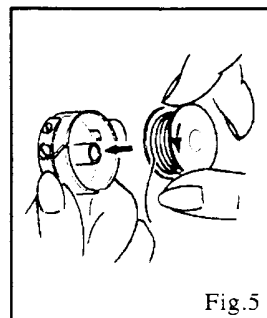
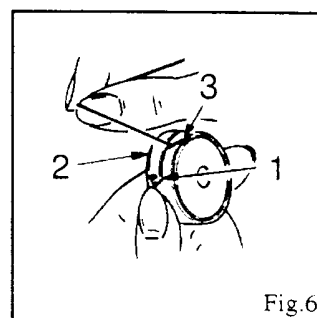

Fig.5
Fig.6
Hold bobbin so that thread will unwind in the direction shown in Fig. 5 and insert bobbin in bobbin case. Pull the thread into slot (1), under the tension spring (2) and into slot (3) as shown in Fig. 6. Draw thread into delivery eye (1) at end of tension spring as shown in Fig. 7.